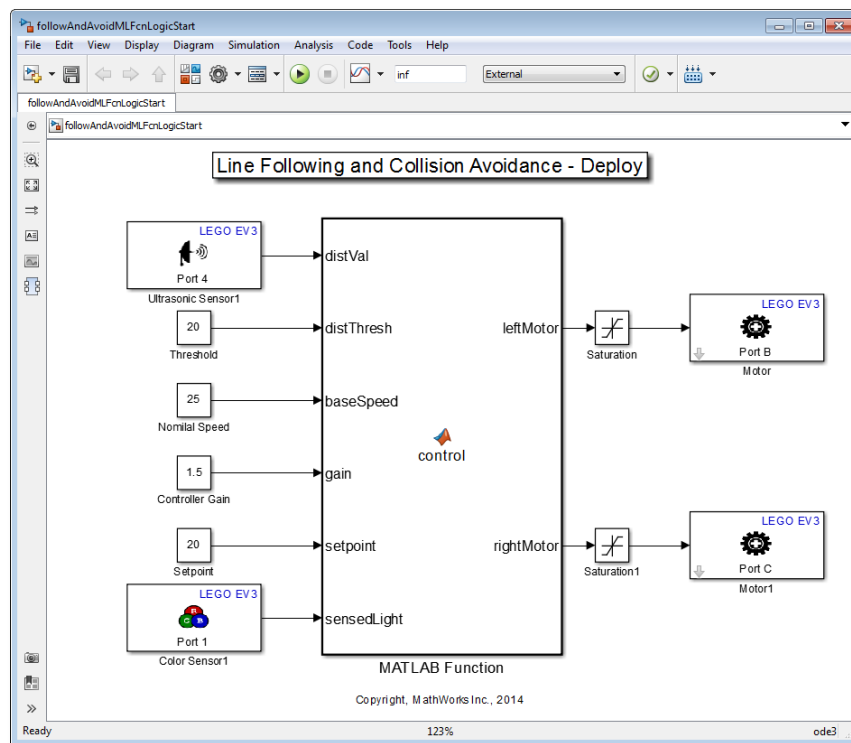

Figure 27: MATLAB Function block in Simulink model
1. Open the supplied Prj2/Work/followAndAvoidBlocksDeployMLFcnEvent_Start.slx. See Figure 27.